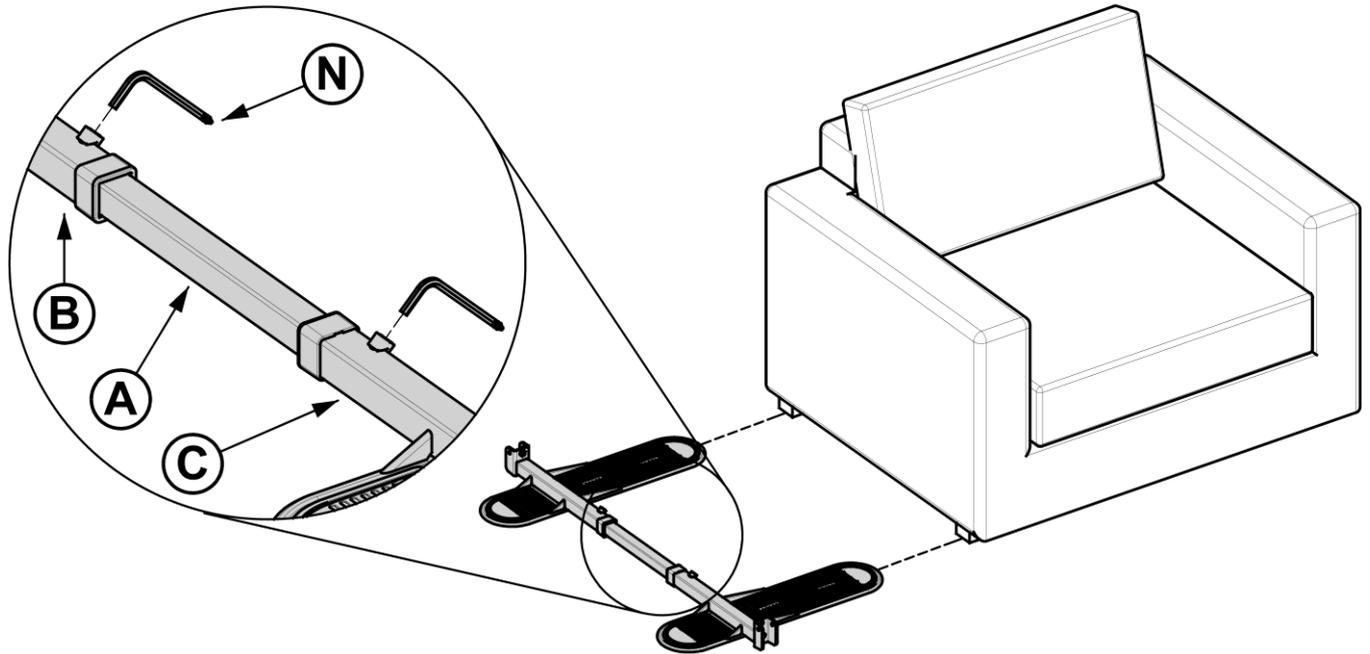

FIGURE 4
4. Slide Foot Connector **A** into Feet **B** and **C** as shown in *FIGURE 4*. Space out Feet **B** and **C** so that the center of the pads are the same width as furniture feet. Ensure **MAX** markings on Foot Connector **A** are covered by Feet **B** and **C** and tighten SET SCREWS on Feet **B** and **C** with Tool **N**.